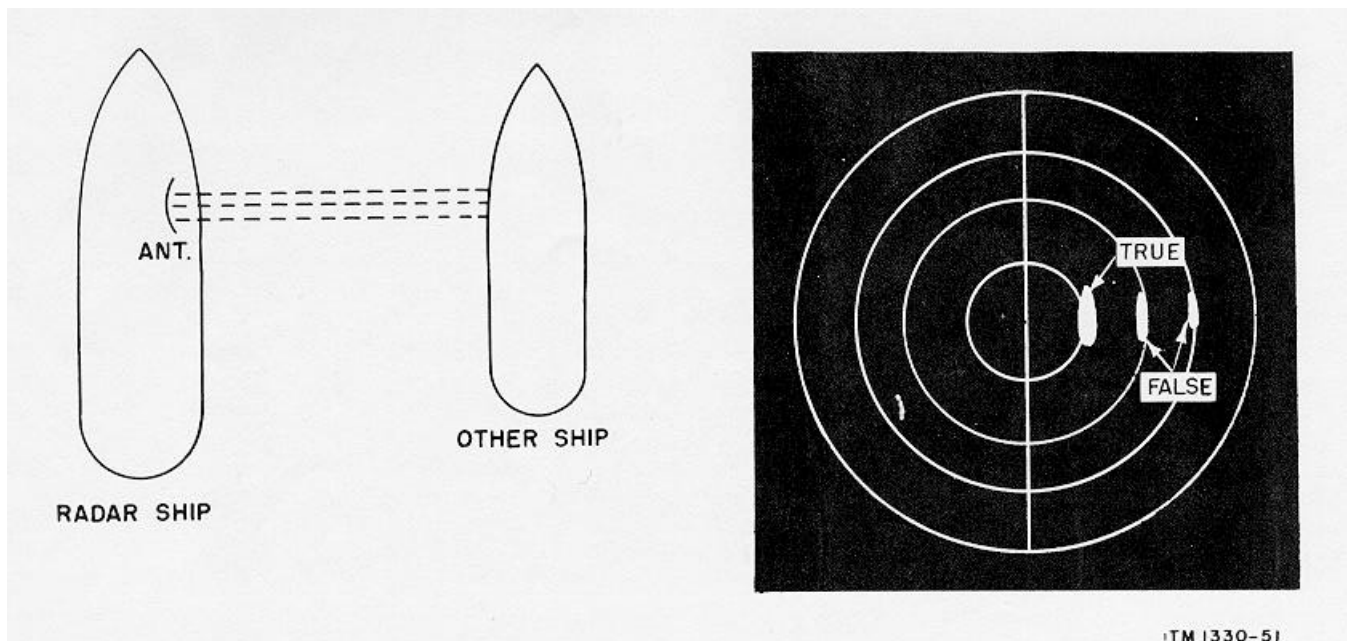

Figure 77. False target in beam position.
c. Figure 77 illustrates a nearby ship which acts as a very strong reflector. The radar beam bounces back and forth several times, causing additional targets to appear on the same bearing but displaced in range. The correct target is that nearest the ship. This effect also may occur when the vessel is close to a land mass.